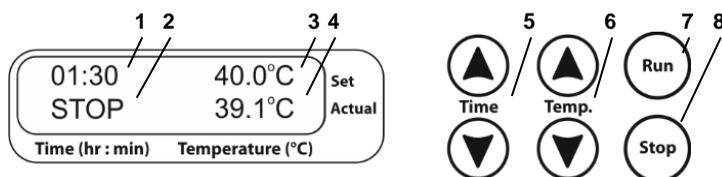
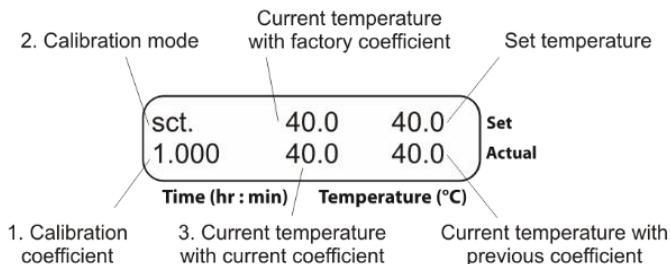
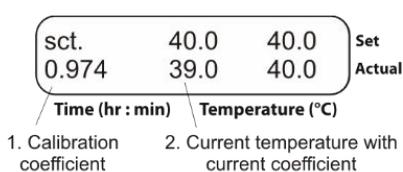

Figure 1. Control panel
Figure 2. Display in calibration mode
Figure 3. Changing the coefficient
- 5.3. **Temperature setting.** Use the ▼ and ▲ **Temp.** keys (fig. 1/6) to set the required temperature. Pressing the key for more than 2 s makes values change faster. Set temperature is displayed in the upper line of the display (fig. 1/3)
- 5.4. The heat block starts the heating. The actual temperature will be shown in the lower line of the display (fig. 1/4).
Use the ▼ and ▲ **Time** keys (fig. 1/5) to set the required sample incubation time in hours and minutes (hh:mm). Pressing the key for more than 2 s makes values change faster. Set time is displayed in the upper line of the display (fig. 1/1)
- 5.7. Press the **Run** key (fig. 1/7) to start the timer. The elapsed time will be indicated in the lower line of the display (fig. 1/2). After the set time interval elapses, unit begins beeping and a blinking STOP indication shows on the display. Press the **Stop** key (fig. 1/8) to stop the signal.
Caution! Stopped timer does not stop the heating / temperature maintenance process. The heating can be stopped by lowering the temperature below 25°C using the ▼ **Temp** key (OFF indication shows on the display, fig.1/3).
- 6.2. To change the calibration coefficient, hold the **Stop** key (fig. 1/8) pressed for more than 8 s to activate calibration mode. The calibration coefficient appears on the display (fig. 2/1).
- 6.3. **Restoring factory settings.** Set 1.000 value using the ▲ and ▼ **Temp** keys (fig. 1/6) as shown on fig. 2/1 to restore the factory settings. Press the **Run** key (fig. 1/7) once to save the changes and exit the calibration mode.
6.4.4. Let us assume that the readings of independent sensor is 39°C, but the display's actual temperature is 40°C (fig. 1/4). Then it is necessary to add 1°C correction.
6.4.5. Hold **Stop** key (fig. 1/8) pressed for more than 8 s to activate calibration mode. The following parameters will be shown on the display (fig. 2).
6.4.6. Using the **Temp** ▲ and ▼ keys (fig. 1/6), change the calibration coefficient (fig. 3/1) so that the new temperature value (fig. 3/2) corresponds to the independent sensor temperature. In our example, the calibration coefficient will be 0.974.
6.4.7. After finishing the calibration, press the **Run** key (fig. 1/7) once to save the changes and exit the calibration mode.